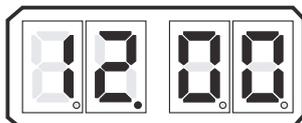

Figure 10-4: Example Display of Applied Battery Voltage
- The displayed value is in "real time" and provides a rough estimate of the DC voltage applied to the Processor. The reading is accurate to within 0.50 DC. Refer to Figure 10-4: Example Display of Applied Battery Voltage